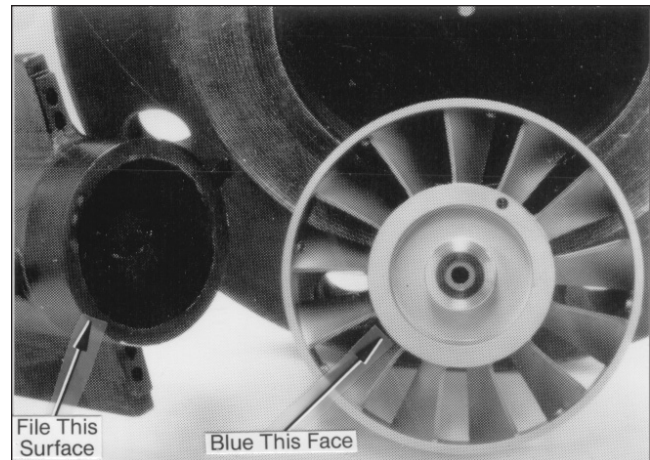

Figure 15
3. Apply blueing or similar compound to downstream side of rotor hub that matches O.D. of stator, Figure 15. **Rotor is marked "IN" on upstream side of rotor.**
8. Disassemble downstream stator and inspect hub for blue markings. If markings are detected, this indicates rotor is rubbing stator which will affect meter linearity. This can be caused by the rotor bearing not having equal protrusion within 0.005" from the rotor hub, or there may be burrs or high spots on the rotor. First, check the rotor bearing and align as outlined on Page 5, Step IIb. If this does not correct the problem, remove high or blue spots on stator, Figure 15, by light filing. Repeat this inspection until rotor runs smoothly and then assemble internals completely.